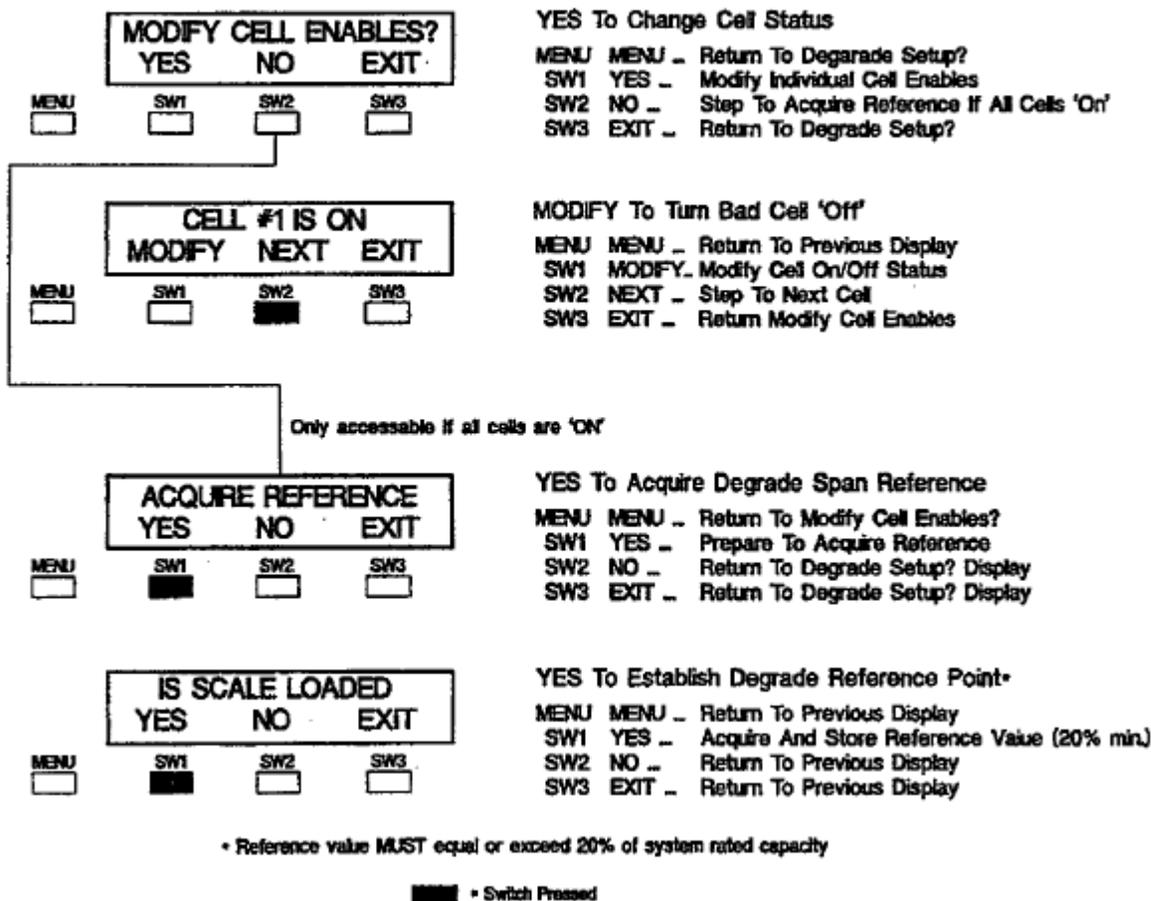

Figure 6-10. Degrade Mode Cell Selection and Reference.
<p>DEGRADE SETUP? YES NO EXIT</p> <p>MENU <input type="checkbox"/> SW1 <input type="checkbox"/> SW2 <input type="checkbox"/> SW3 <input type="checkbox"/></p>	<p>YES To Acquire Reference or Modify Cell Enable</p> <p>MENU MENU _ Return To Previous Display</p> <p>SW1 YES _ Figure 6-10 - Perform Degraded Setup</p> <p>SW2 NO _ Go To Cell Diagnostics</p> <p>SW3 EXIT _ Return To Cell Diagnostics</p>
To activate degraded mode operation it is necessary to shut-off the suspect channel using the Cell Enable menu (Figure 6-10) accessed via the keypad. It is not possible to automatically activate this mode internally or remotely through the serial port.
- [3] Proceed to the Degrade Setup Menu (Figure 6-10) and make sure all cells are 'On'.
Paragraph 8.3.1 defines the four remote inputs option-ally available with DXp-40 instruments. This section of diagnostic configuration determines whether or not individual remote inputs are enabled. Follow the flow diagram presented in Figure 6-10 to enable or disable each of the four inputs as desired.